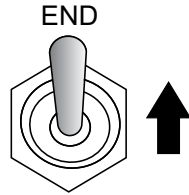

Figure 67. Parallel Signal Switch (End)
- For the two outer most generators place the parallel signal switch (Figure 67) in the **END** position.